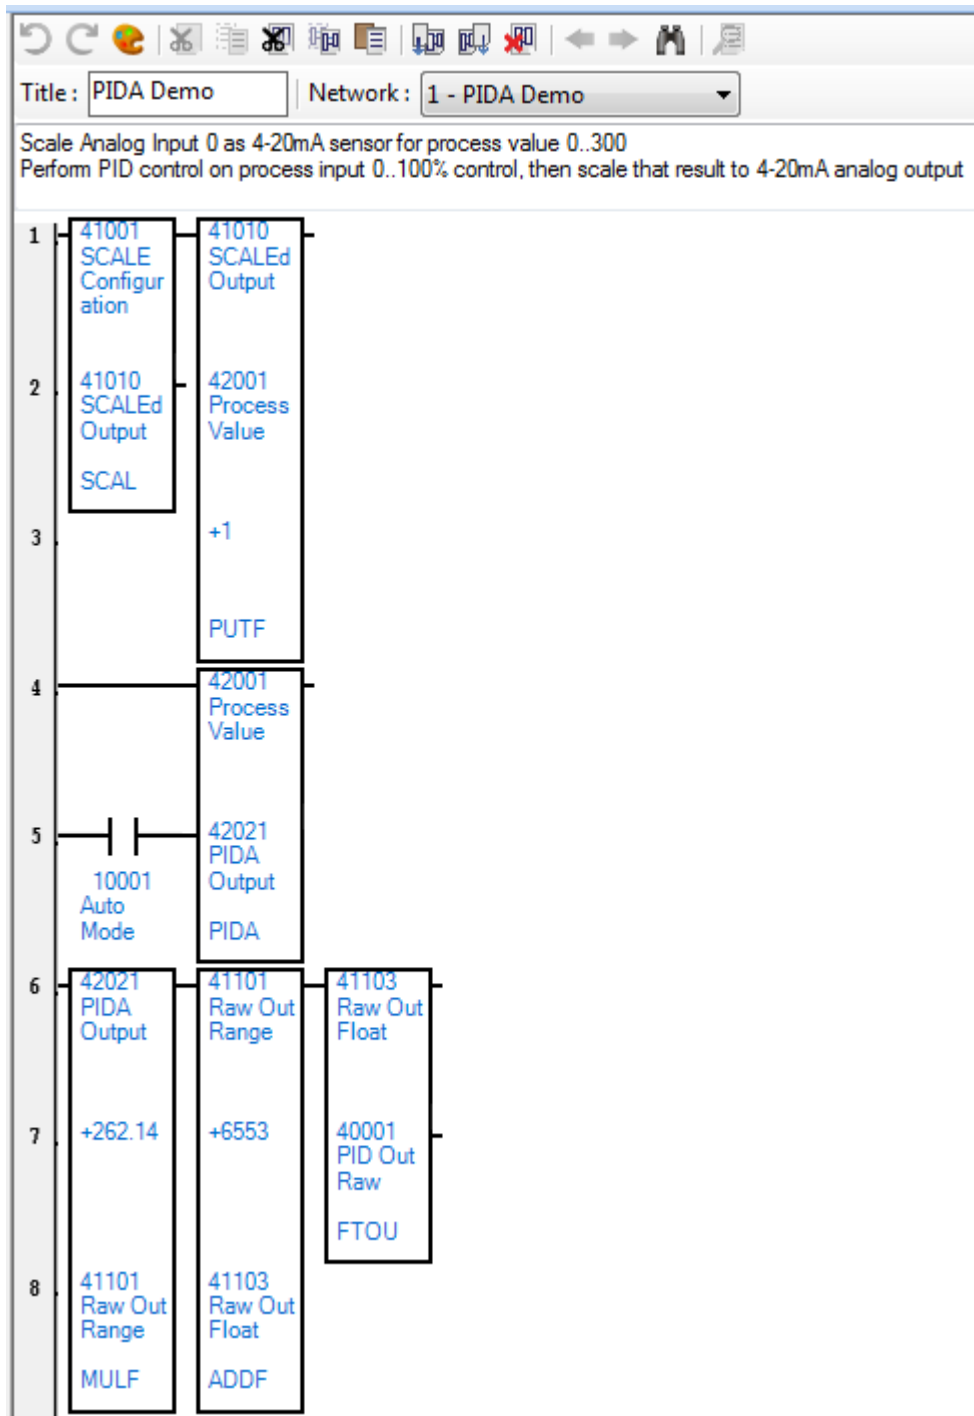

Figure 51: Ladder logic for PIDA demonstration
- Enter the **ladder logic** as shown in Figure 51.